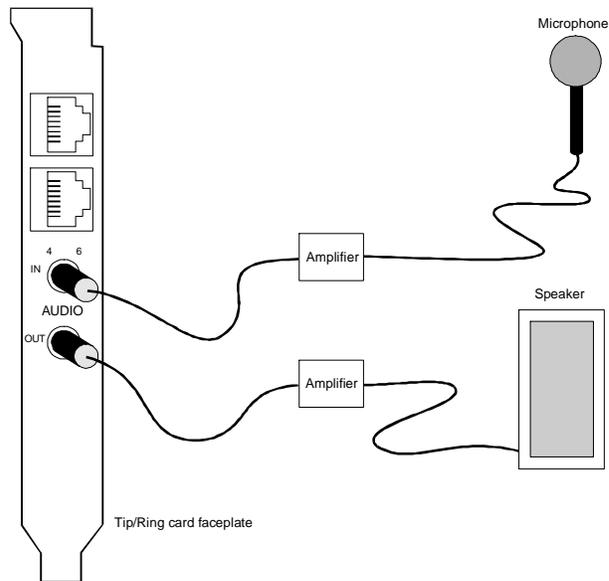

Figure 10-14. Connecting the Tip/Ring Circuit Card and Graphical Speech Editor
2. Plug the microphone cable into the AUDIO IN jack on the faceplate of the T/R circuit card (Figure 10-14). This connection dedicates line 0 of the T/R circuit card.